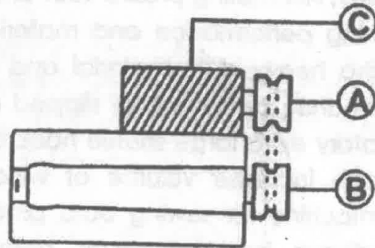

Fig.1
Mounting the motor by three motor mounting screw. Adjust the position of motor(C) and make the balance wheel(Machine pulley) belt guidance and motor pulley belt guidance are collinear. Observe the Fig. 1.